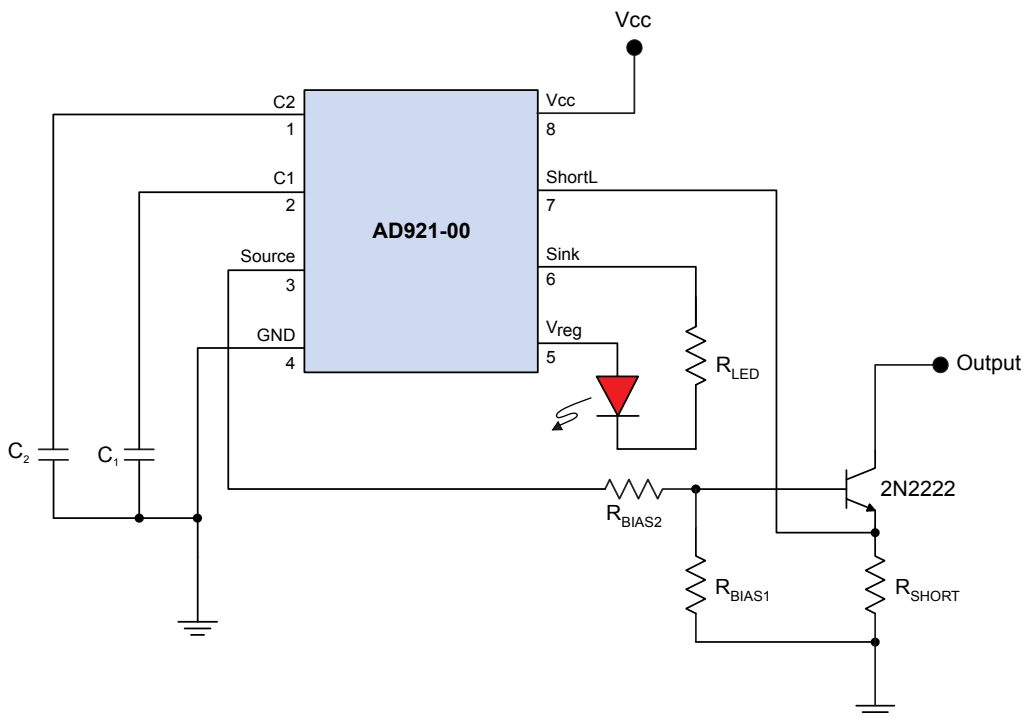

**Figure 5. Detailed block-diagram of the AD924 sensor with short-circuit protection circuitry.**
**Figure 5. An AD022 sensor (pin 1 is upper left; the sensor has cross-axis sensitivity), on an AG015 circuit board with a 12031 8 mm dia. x 3 mm thick ferrite magnet.**